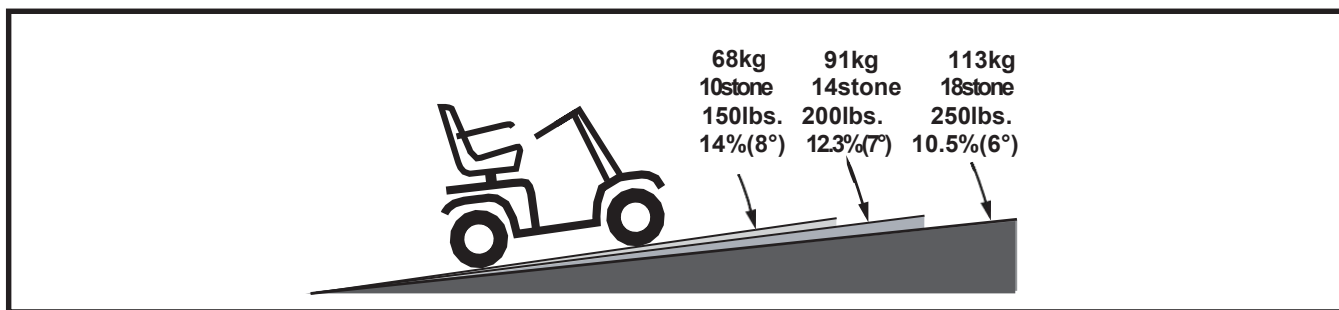

Figure 1. Maximum Recommended Incline Angles
**WARNING! Even though your Travel Scooter is capable of climbing slopes greater than those illustrated in figure 1, do not, under any circumstances, exceed the incline guidelines or any other specifications presented in this manual. Doing so could cause instability in your Travel Scooter.**
Handicap public access ramps are not subject to government regulation in all countries and therefore do not necessarily share the same standard percent of slope. Other inclines may be natural or, if man-made, not designed specifically for Travel Scooters. **Figure 1** illustrates your Travel Scooter's stability and its ability to climb grades under various weight loads and under controlled testing conditions.
**WARNING! Any attempt to climb or descend a slope steeper than what is shown in figure 1 may put your Travel Scooter in an unstable position and cause it to tip.**